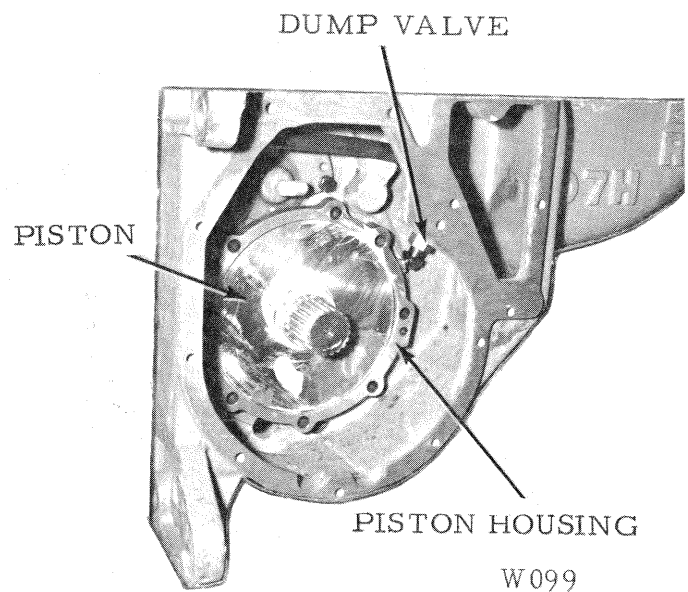

Figure 8
b. Disconnect the quick dump valve from the piston housing. Slide the piston and housing off the studs. Fig. 8. Remove the piston from the housing with low air pressure.